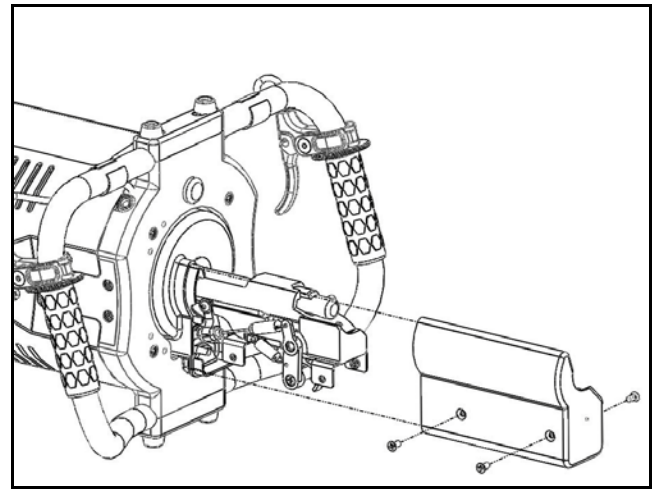

Figure 18 – Rear Receiver Cover
2. Remove the four (4) screws securing the Rear Receiver Cover (see Figure 18). The Receiver Bolt must be open to remove the Cover.
3. Reinstall the Rear Receiver Cover and the four (4) screws (see Figure 18). Take care when tightening the cover screws not to over tighten them and crack the cover.